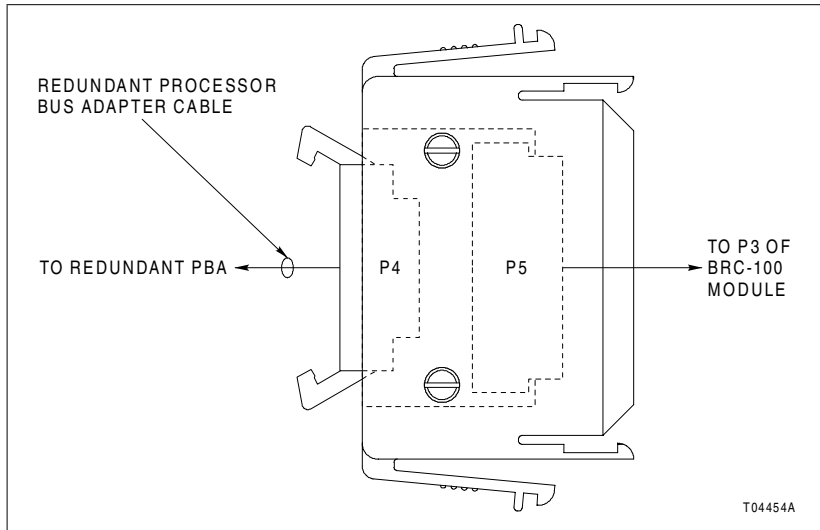

Figure 3-6. Hood Connector Assembly Connector Identification
3. Link the two hood connectors using the redundant PBA cable by firmly pressing the cable ends into the hood connector sockets. When the cable ends are in place, the hood connector brackets will snap into place. Refer to Figure 3-6.